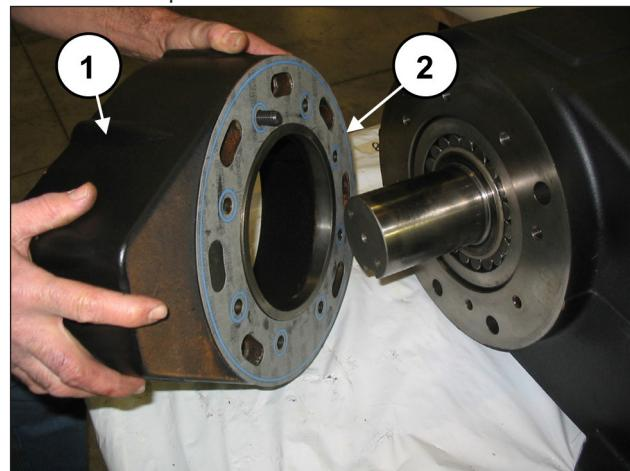
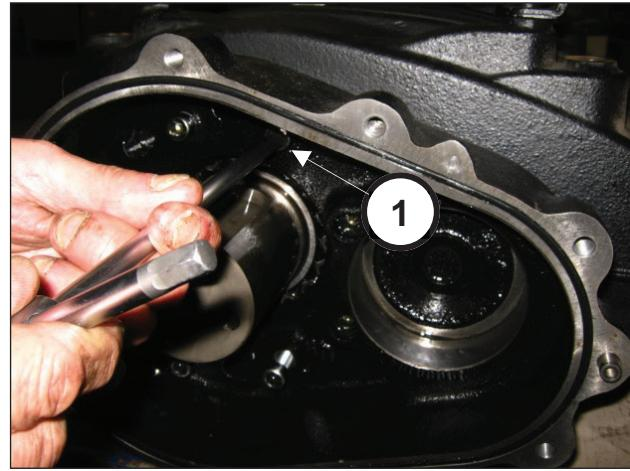
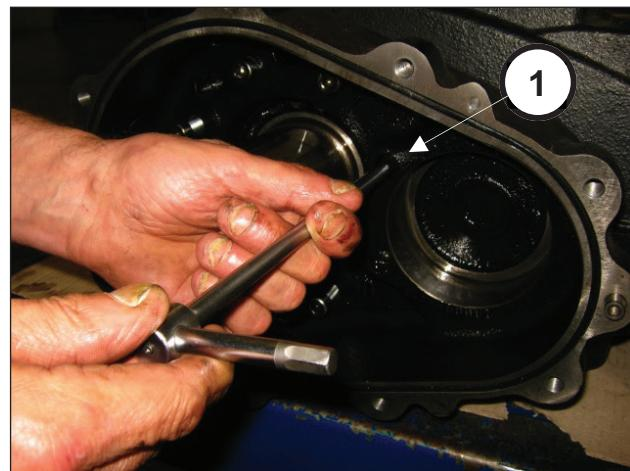
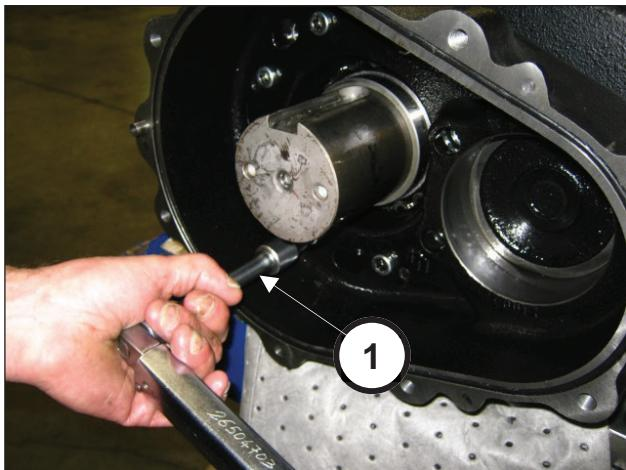

Fig. 46
Fig. 47
Fig. 48
Fig. 49
Assemble the reduction gear box (pos. ①, Fig. 46) and relative seal (pos. ②, Fig. 46) using the 6 M12x40 screws (pos. ①, Fig. 47) and the 2 M12x50 screws (pos. ①, Fig. 48). Calibrate the screws with a torque wrench (pos. ①, Fig. 49) as indicated in chapter 3.